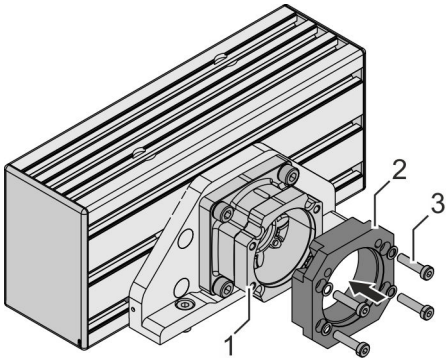

Fig. 34: Assembling the motor plate
8. ➤ Place the motor plate (Fig. 34/2) on the coupling housing (Fig. 34/1).
9. ➤ Tighten 4 screws (Fig. 34/3) alternating diagonally: